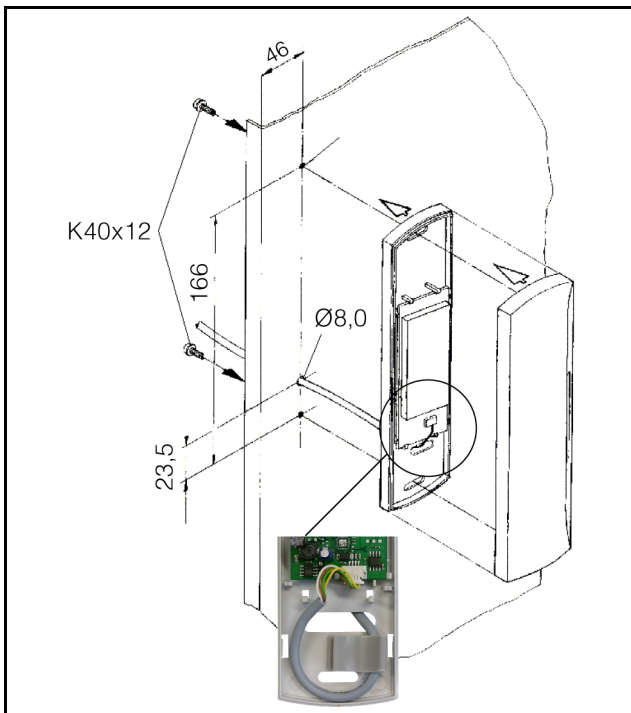

Fig. 3: TS sheet steel door installation
- Drill suitably sized holes at the required part of the frame of the TS sheet steel door (fig. 3).